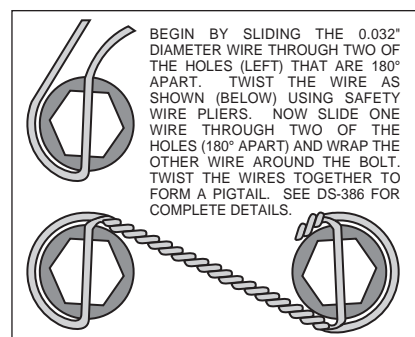

Figure 7. Safety Wire Diagram
- With the larger I.D. side of the rotor (4) facing away from the hat (3), bolt rotor (4) to hat (3) through the backside of the rotor using washers (5) and bolts (6). Using an alternating sequence, apply red *Loctite*® 271 to the threads and torque bolts to 155 in-lb. For an added measure of security, the bolts may be safety wired using standard 0.032 inch diameter stainless steel safety wire as shown in Figure 7. Please refer to Wilwood's data sheet DS-386 (at www.wilwood.com/Pdf/DataSheets/ds386.pdf) for complete safety wire installation instructions.